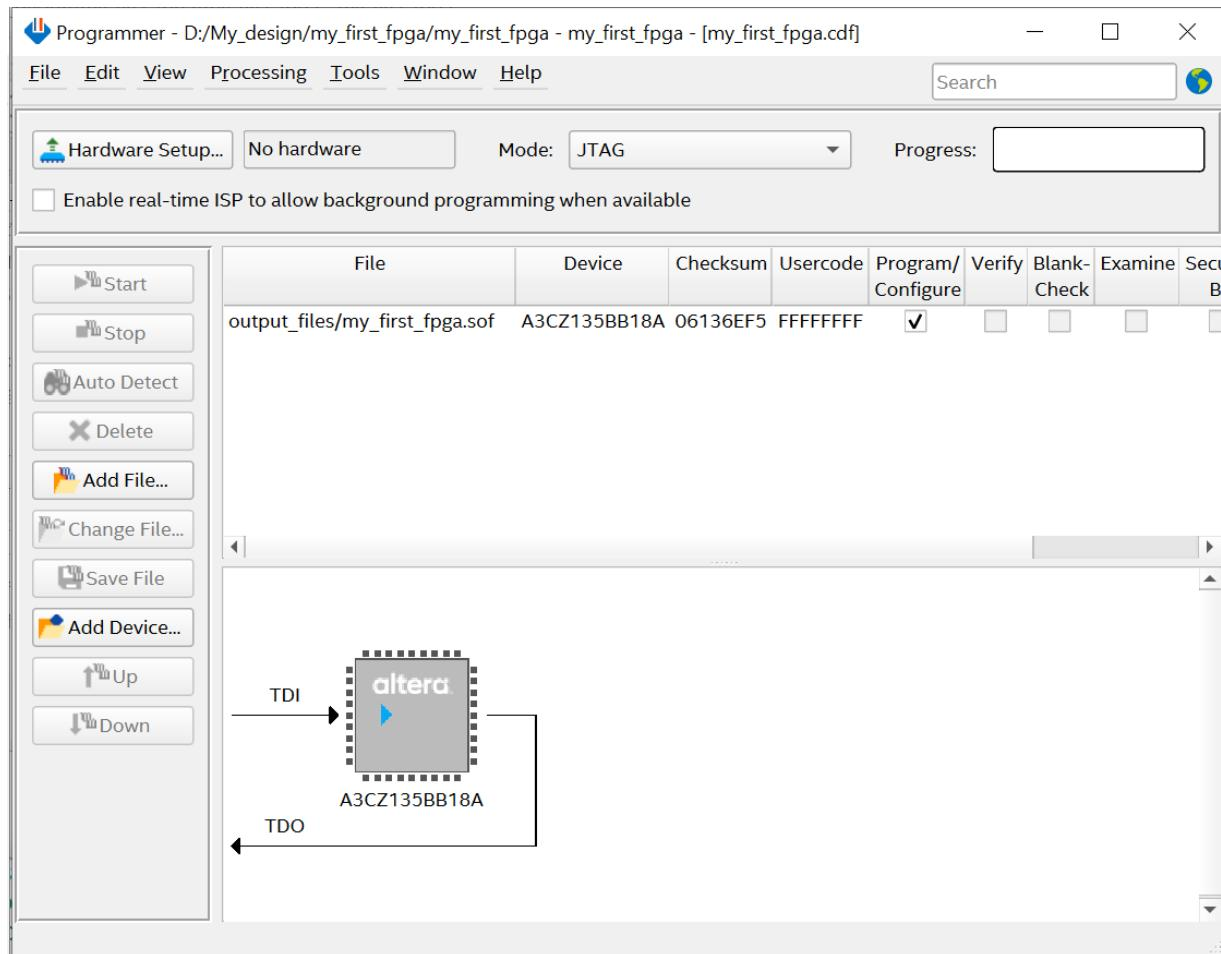

Figure 4-4 Quartus Programmer window
2. Open the Quartus Prime software and select **Tools** --> **Programmer**. The Programmer window will appear as shown in **Figure 4-4**.